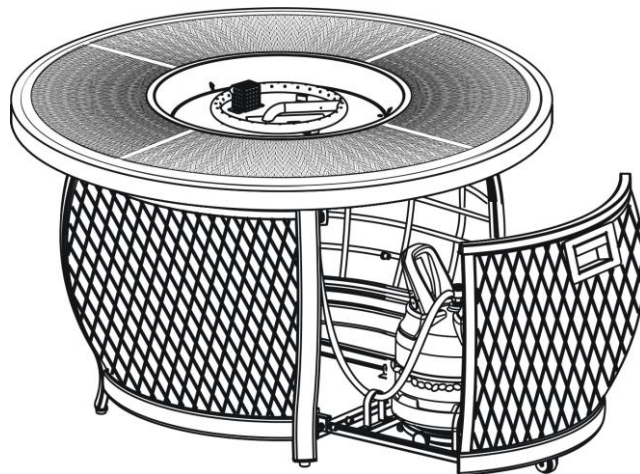

Figure 5
5. Slide the tank drawer out and place the LP tank (not provided) on the rack and secure it with the chain as shown in Figure 5. With the BLACK lever in the “down/off” position as shown in Figure 6, firmly push the regulator onto the tank valve. To open the valve, lift the BLACK lever and turn the handle 90° clockwise to the “ON” position. See Figure 7. Apply a solution of soapy water to the tank-regulator connection and to the valve-hose connection to check for leaks. If soap bubbles continue to form, the connection has a leak. If a leak is found, close the tank valve and tighten all connections. **NEVER USE A FLAME TO CHECK FOR LEAKS.** In case of gas leakage; for instance, in the event of gas leakage, the appliance shall not be used or if alight, the gas supply shall be shut off and the appliance shall be investigated and rectified before it is used again. To remove the regulator, turn the Black Lever counterclockwise and press straight in. See Figure 8.